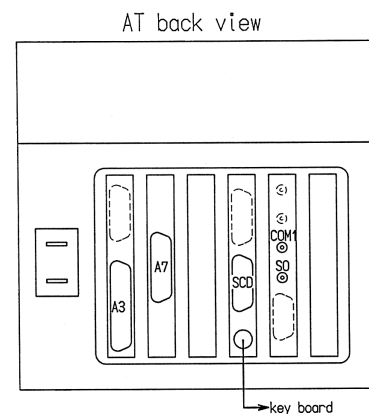

Fig. 17
4. Connect the connectors from the AT box to the AT computer. Refer to Fig.17.